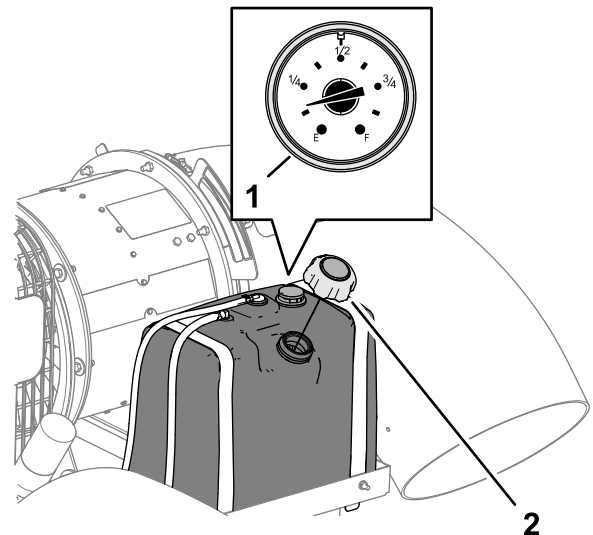

Figure 13
2. Clean the area around the fuel-tank cap and remove the cap (Figure 13).
4. Install fuel-tank cap securely (Figure 13).